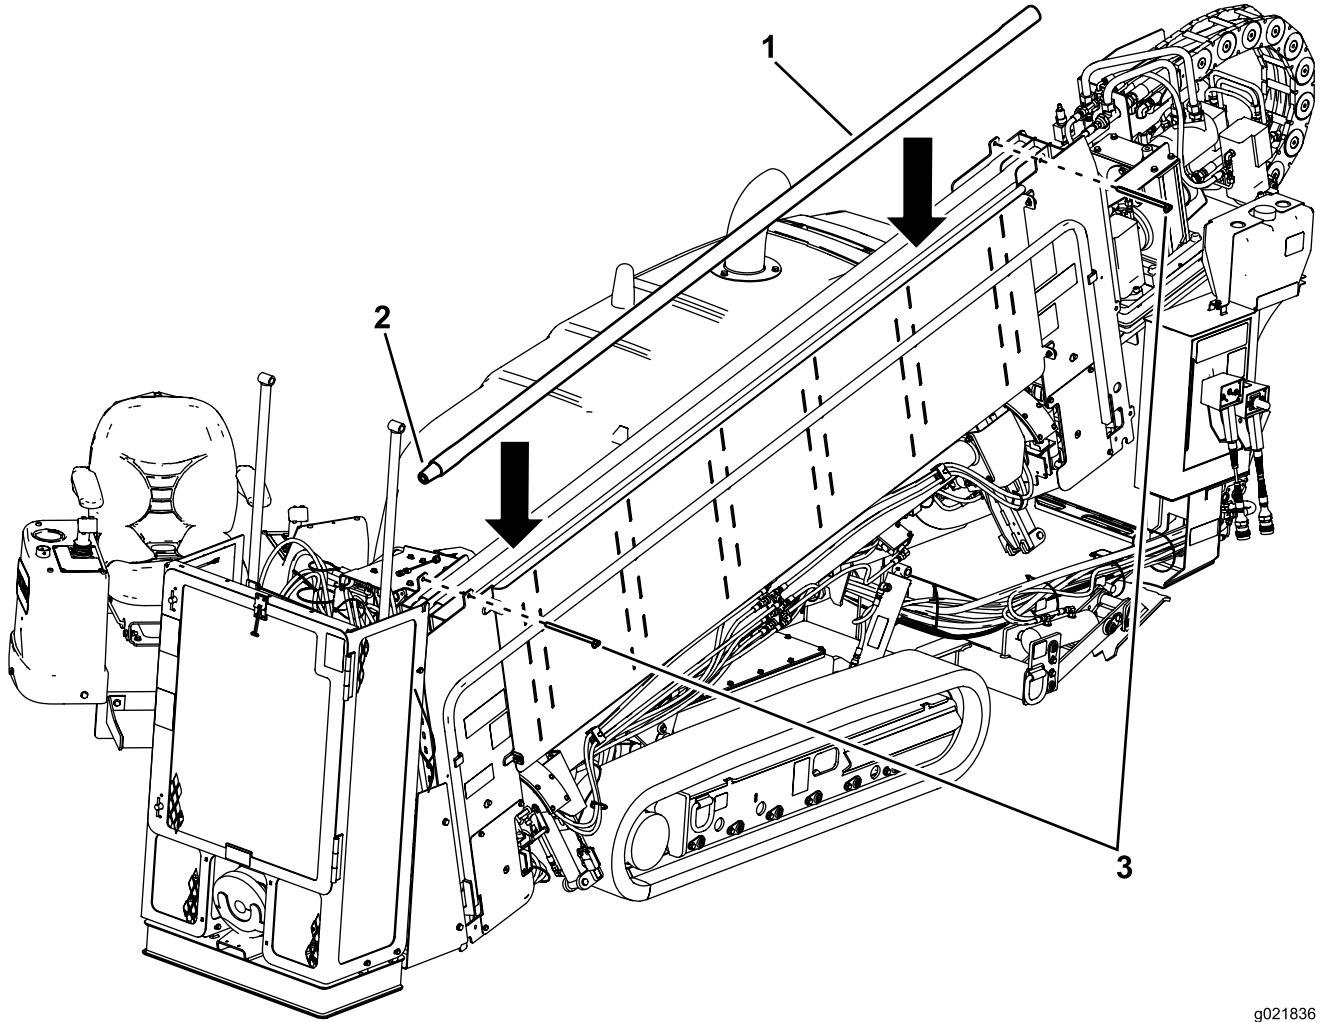

Figure 66
1. Remove the clevis pins from the pipe holder (Figure 66).
2. Insert the pipes from the top with the male threaded pipe ends toward the front of the machine (Figure 66).